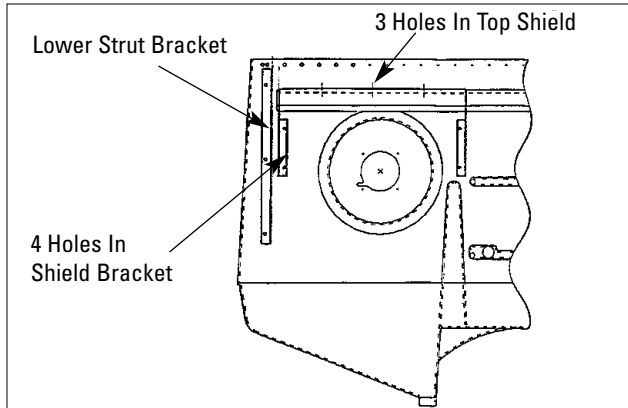

Figure 10 - Shield assembly
1. Position the shield top & side assembly as shown in fig. 10.